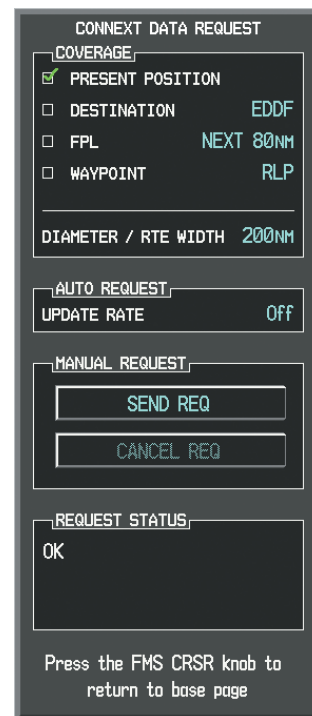

Figure 6-66 Connex Data Request Window
- 4) Turn the large **FMS** Knob to highlight the desired coverage option(s) and press the **ENT** Key to check or uncheck one of more of the following coverage selections (Figures 6-66, 6-67):